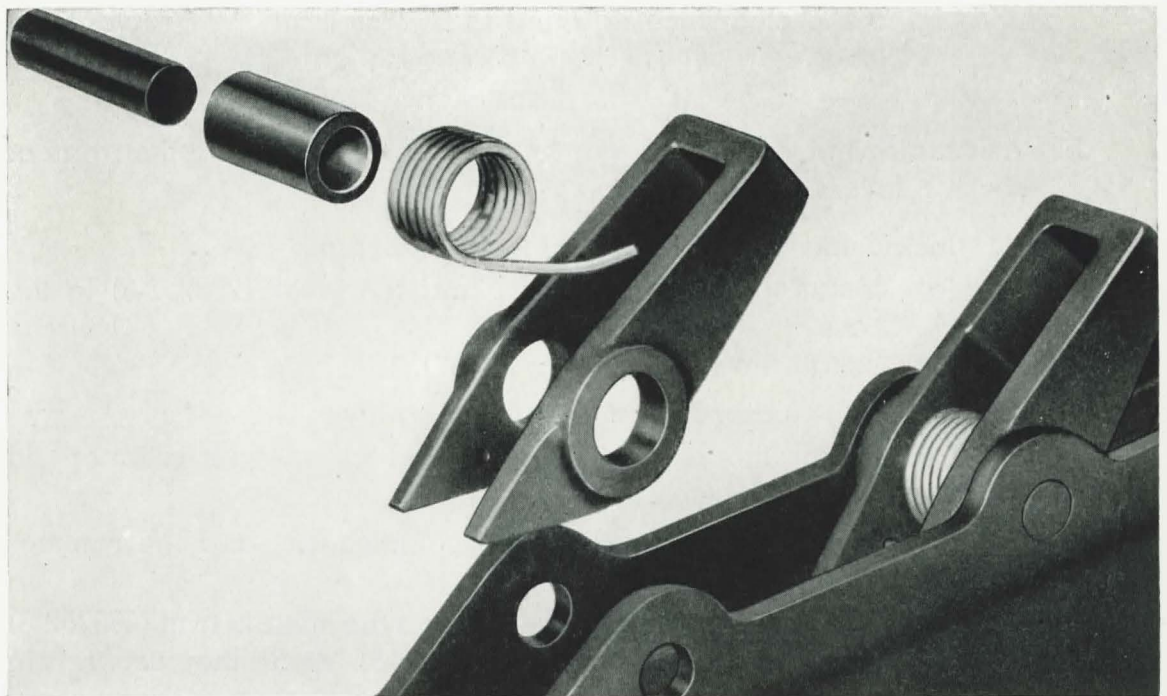

Figure 68
- (1) Install the pawls in the holder, **Figure 68**.